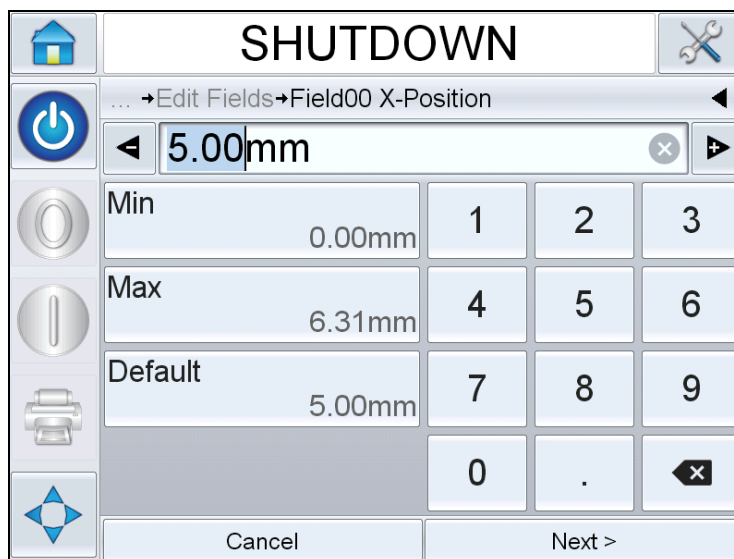

Figure 6-11: Quick Position Edit - X Position
- 4 Select the required field to re-position, opens the X position edit screen (see Figure 6-11). Quick Position Edit allows each field to be positioned as required in both X and Y axis.